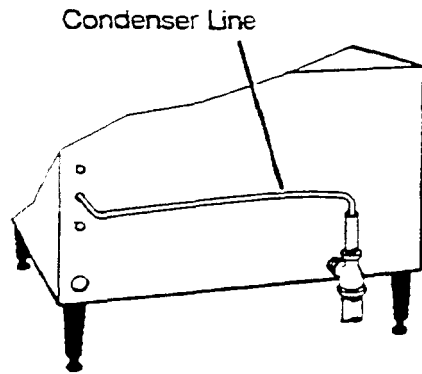

Figure 2-16- Condenser Line
1. Check that the condenser line from the steamer (Figure 2-16) is positioned in the top of the overflow tube. A clip secures the line to the tube.